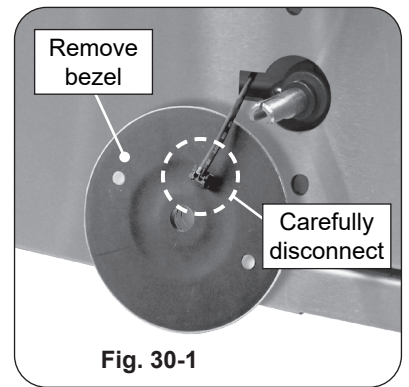

Fig. 30-1
4. Slowly lift away the lighted bezels to clear the valve stems, and carefully disconnect the wires found on the back of the bezels (use your fingernail). See Fig. 30-1.
7. Disconnect the main wire harness connection (Fig. 30-1, **A**) and the igniter wires (Fig. 30-1, **B**). It is recommended to temporarily label the wires for reference when reconnecting. See Fig. 30-1. When disconnecting, be sure to pull from the connectors, and not the wires.